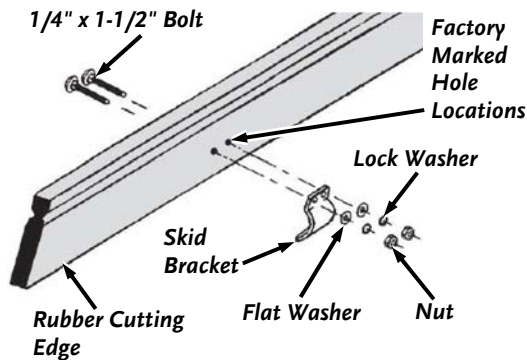

Figure 1
1. Each end of the rubber cutting edge has two factory marks (to match with holes in skid bracket). Drill them out with 5/16" bit (**Figure 1**).